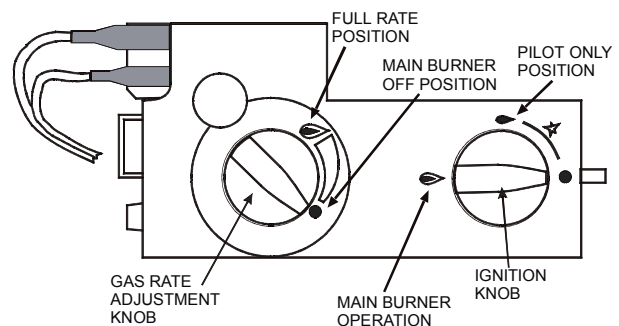

Figure 5 – Gas Valve
2. With gas available at the valve press the IGNITION KNOB (see **Figure 5**) in and turn it anticlockwise to the pilot flame position. A click of the piezo igniter will be heard and a spark will appear at the electrode. At the same time the gas will flow to the pilot burner and should be ignited by the spark. Repeat the procedure until the pilot flame is established.
5. **Turn the IGNITION KNOB anticlockwise to the Main Burner Operation position as shown in Figure 5.**